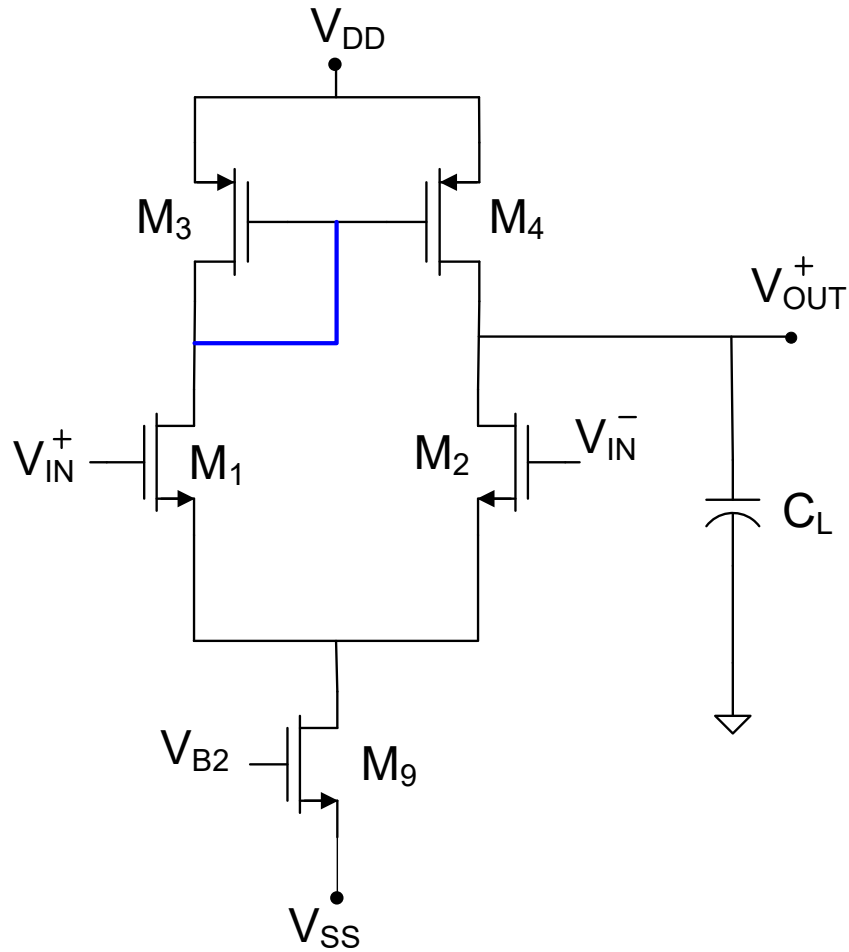

Fig. 2 Basic Operational Amplifier with Current-Mirror Biasing
modified version of this amplifier is shown in Fig. 2 where the gates of  $M_3$  and  $M_4$  are connected so as to form a current mirror that mirrors the current in  $M_3$  to that in  $M_4$ .
**Part 2** Design an operational amplifier using the architecture of Fig. 2 that can drive a capacitive load of 10pF using an analytical formulation for the amplifier. This design should result in determining all of the natural design parameters for this circuit. The amplifier should have a GB of at least 10MHz , a dc voltage gain of at least 100 when driving this load, and a p-p output swing of 0.5V for some common-mode input levels and some quiescent output level.